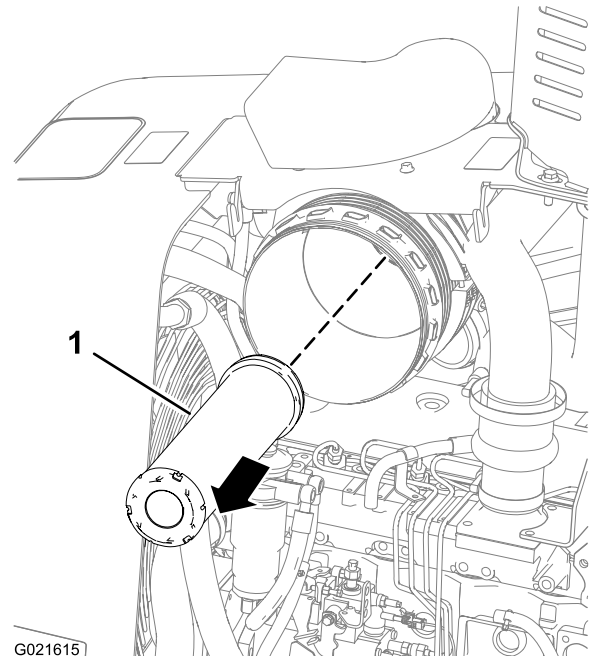

Figure 49
Pull the secondary air-cleaner element outward and remove it from the air-cleaner housing. (Figure 49).
4. Insert the new secondary air-cleaner element into the air-cleaner housing (Figure 49).